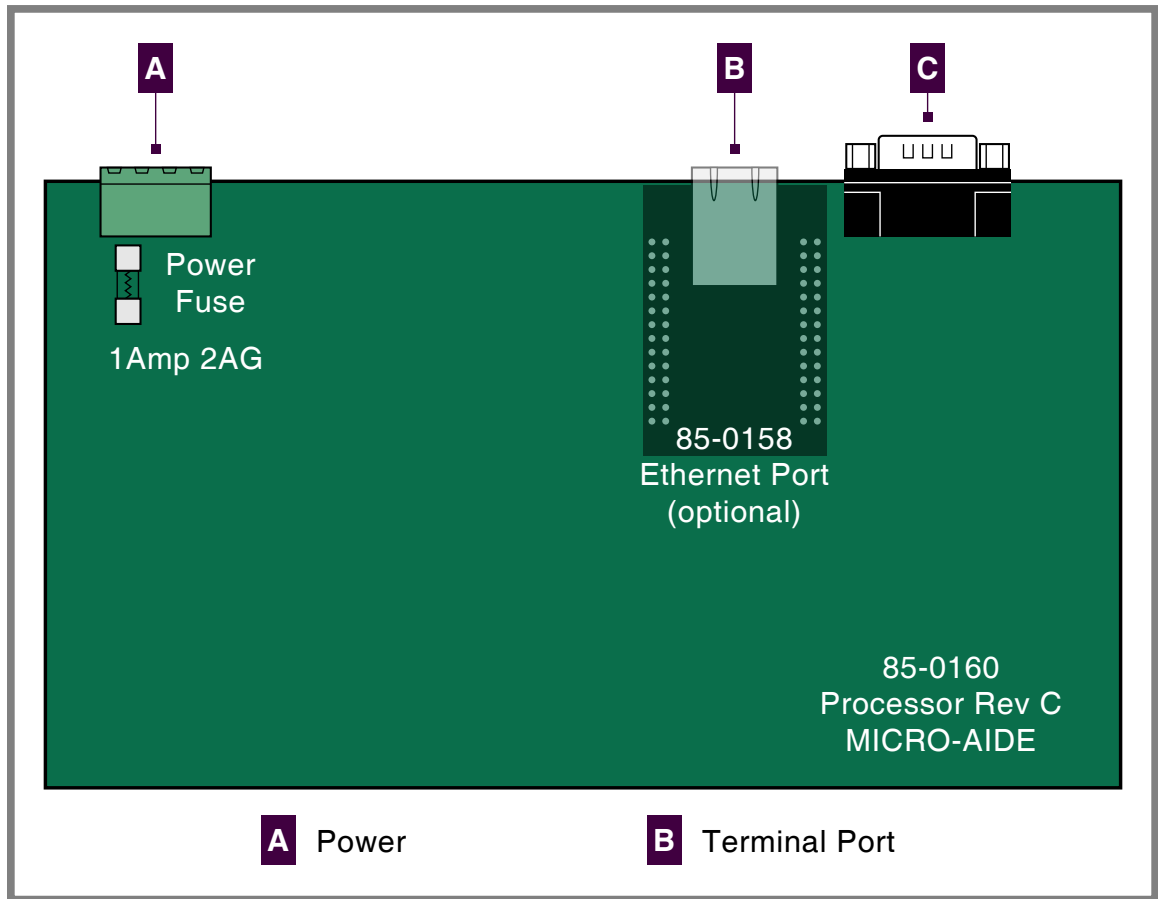

Figure 6: Processor PCB
There is a fuse mounted on the Processor PCB. The fuse is designed to protect the input power source. It is rated at 1 A and conforms to the 2AG size standard. Before replacing a fuse the cause of the blown fuse should be ascertained and cleared if possible. The fuse is illustrated in Figure 6 on page 52.
3. Locate the 56-pin female socket labeled "U6" along the upper edge of the Processor PCB. The socket is illustrated in Figure 6 on page 52.